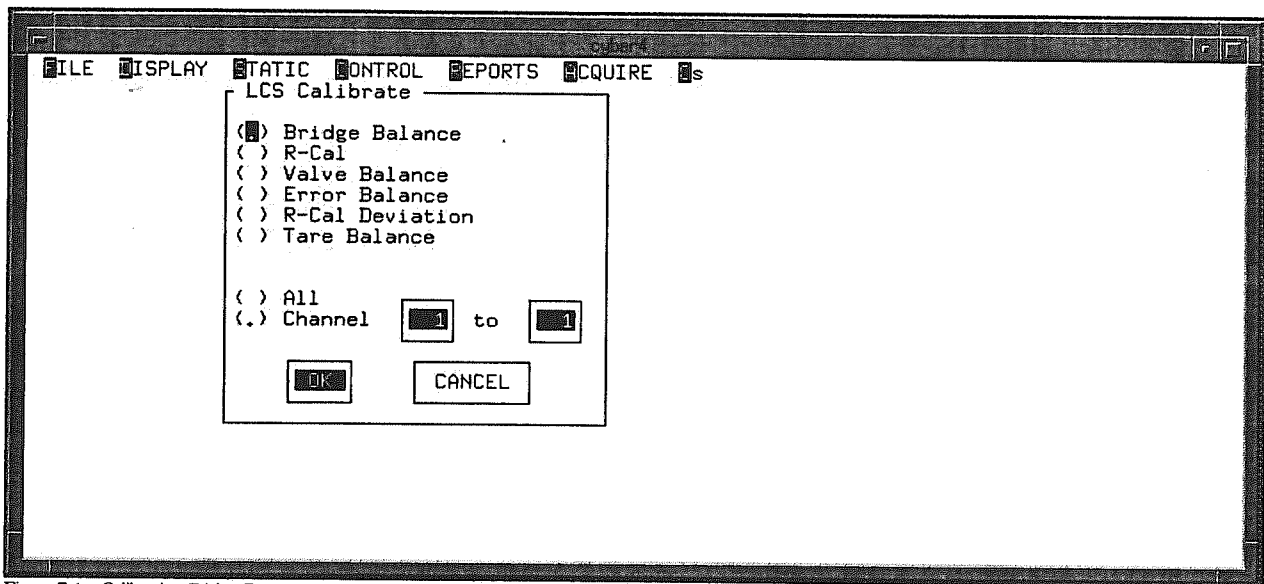

Figure 7-1 Calibration Dialog Box
- Step 1:** Select the Control menu, Calibration option. The Calibration dialog box shown in Figure 7-1 is displayed.